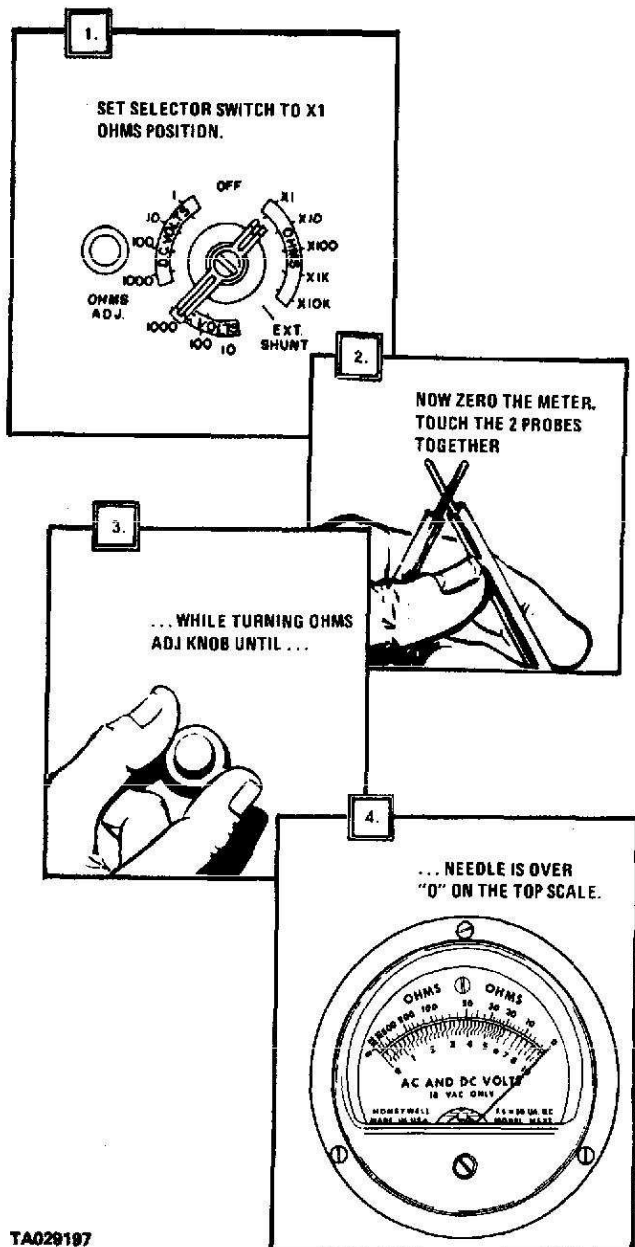

Figure 2-14. Zeroing the AN/URM-105.
(1) *AN/URM-105.* Use the procedure shown in figure 2-14.